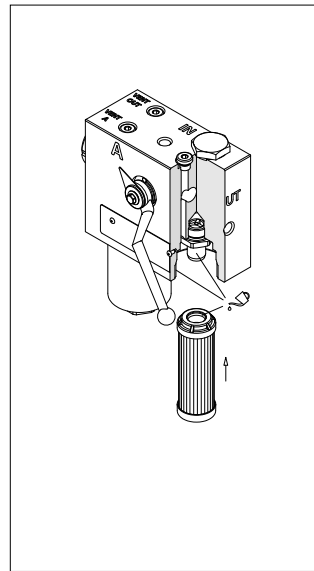

fig. 11
- (Fig. 11) Lubricate with the operating fluid the filter element O-ring, the housing tap and cavity, then fit the filter element on the tap. Pay attention not to damage the O-ring seal.